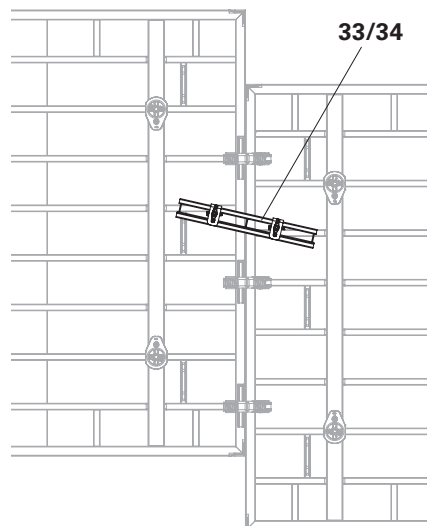

Fig. A5.07
- As an option for offset struts. (Fig. A5.07)